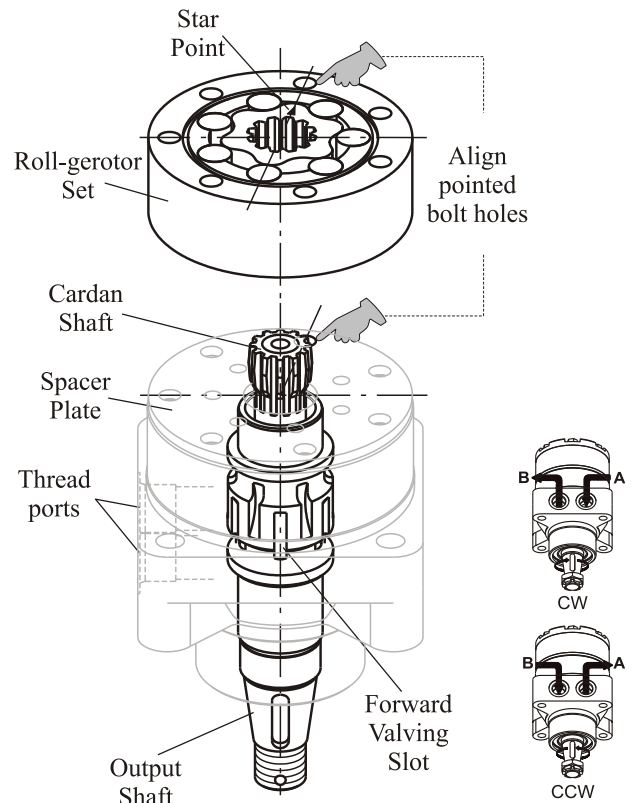

Fig.15
14. Orient the output shaft to the housing tread ports as shown on Fig.15.
16. Place roll-gerotor set on distributor plate as shown on Fig.15 and align pointed bolt holes of roll-gerotor set and housing